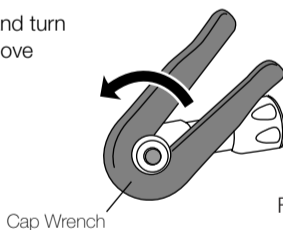

Fig.6
- 3) Place Cap Wrench on the End Cap and turn counter-clockwise. Unscrew and remove the cap. (Fig. 6)